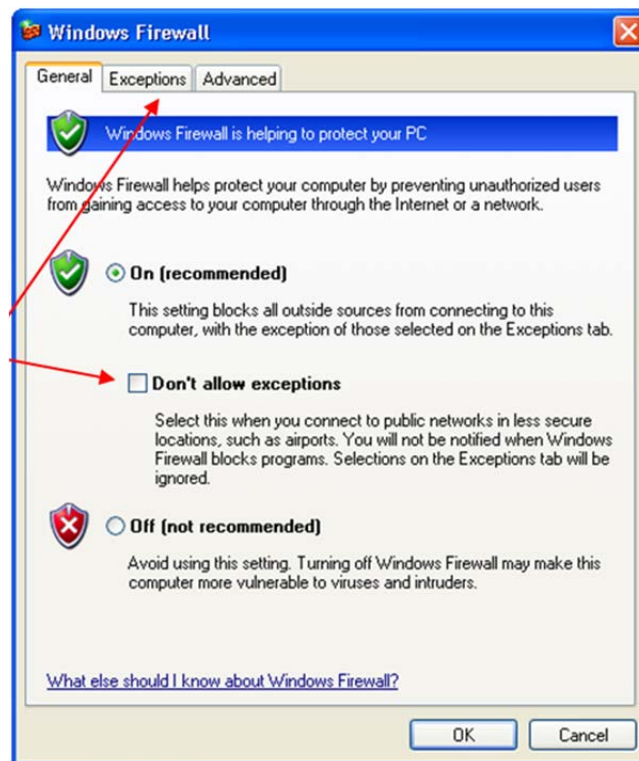

Figure III-24. Windows XP Windows Firewall Window (General Tab)
- a. For Windows XP, make sure that the “Don’t allow exceptions” check box on the General tab is **not** selected (Figure III-24).